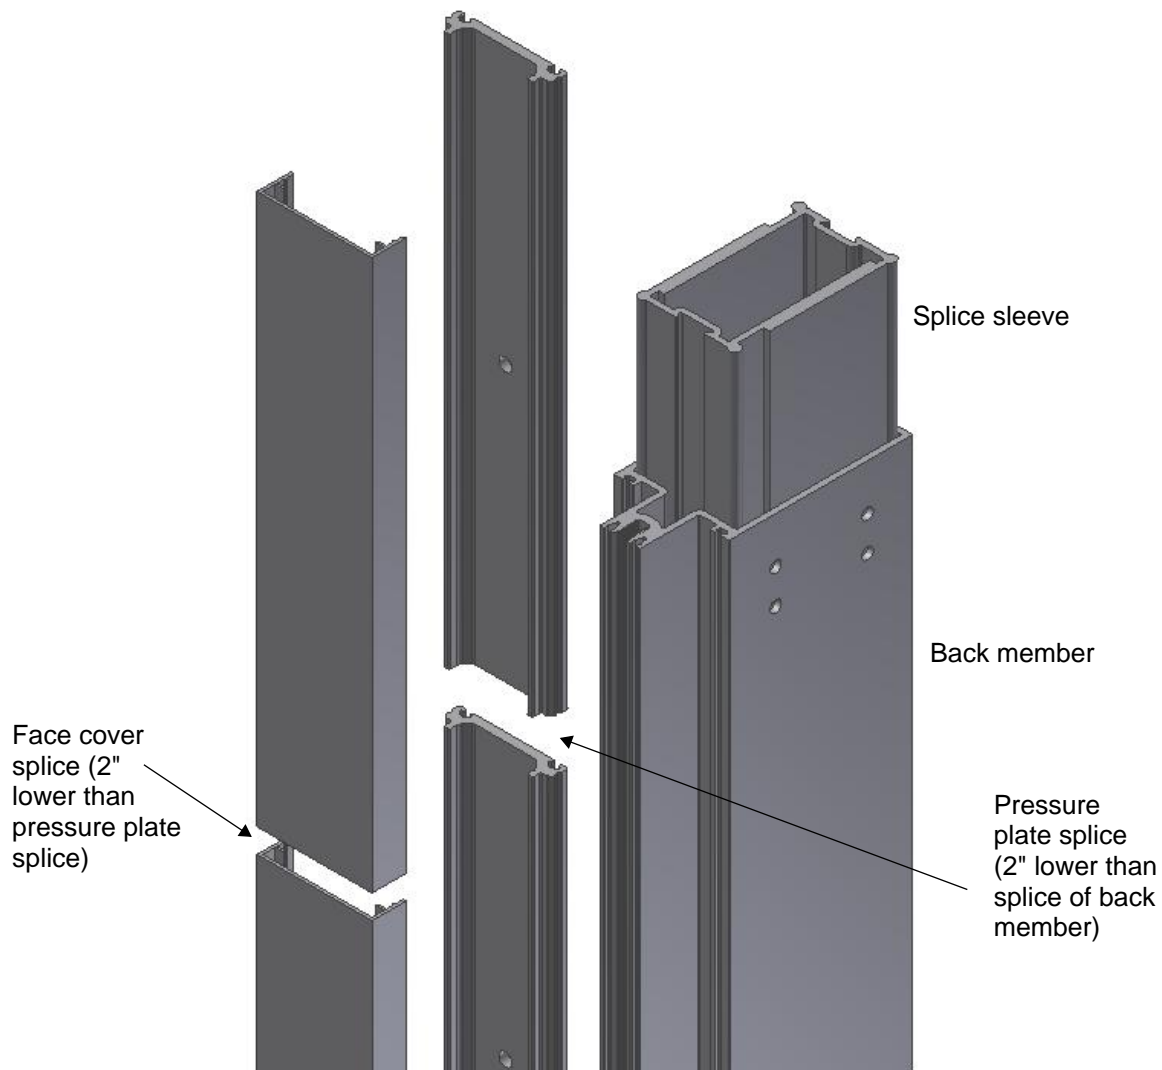

Figure 3: Splice face covers and pressure plates as necessary.
- If necessary to splice vertical pressure plates and face covers, allow a 3/8" gap for the splice joints. The splice in a vertical pressure plate should be 2" below the splice in the mullion, and the splice in a vertical snap-on cover should be 2" below the splice in the pressure plate as shown in Figure 3.